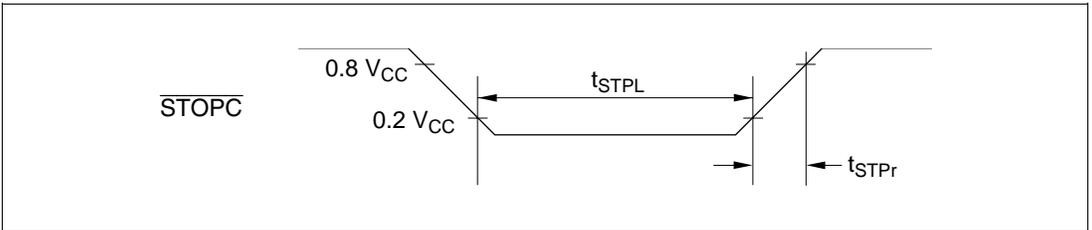

Figure 25-34 \overline{STOPC} Timing (HD404369 Series)
6. See figure 25-34.
7. See figure 25-34.